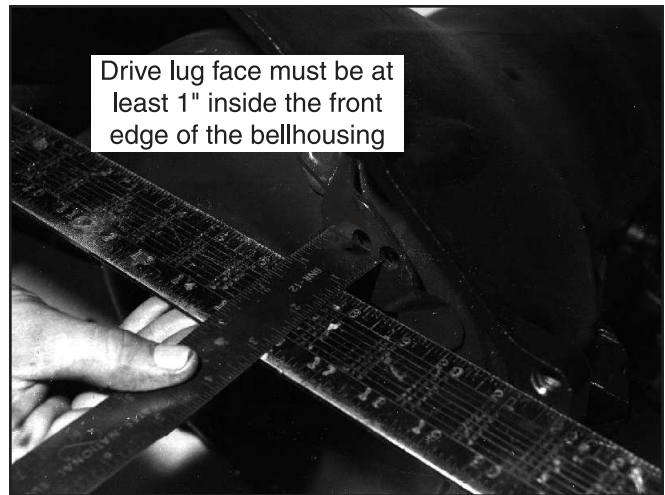

Figure 2
**STEP 17.** Install B&M torque converter onto transmission. Push and rotate the converter to engage input shaft, reaction shaft and oil pump rotors. Place a straight edge across the face of the transmission bellhousing. Measure the distance from the face of the bellhousing to the face of the torque converter drive lug. The drive lug must be at least 1" inside the bellhousing. (see fig. 2) A measurement of less than 1" indicates the torque converter is not fully engaged in the transmission. Continue to rotate and turn the converter to obtain full engagement. If you install the transmission without full converter engagement, you will damage the pump.